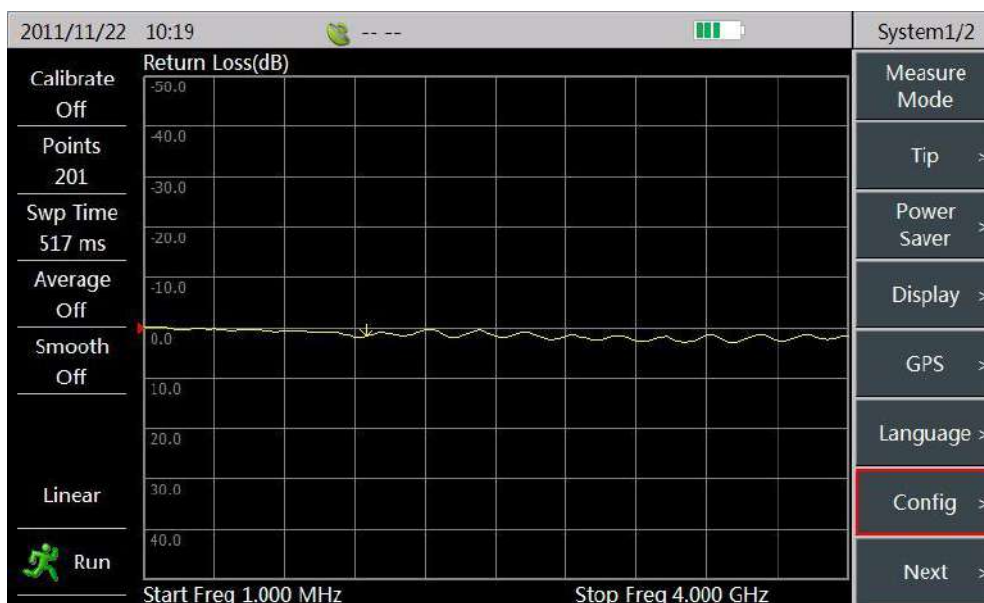

Figure 6-15 Combination Key
- Press **【System/Local】** and **【↑】** keys simultaneously then a menu in menu bar will be circled by red frame, as shown in Figure 6-15: